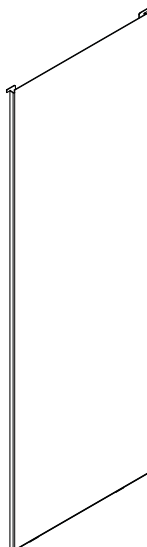
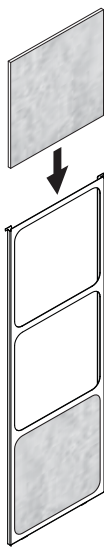

Figure 25.1
Figure 25.2
Your appliance ships with two different side options, one is a solid side panel (Figure 25.1) and tile side panel (Figure 25.2). There are two of each and no left or right side, these can be changed at anytime.
3. Stack non-combustible material tiles in tile frame as shown in Figure 25.2.